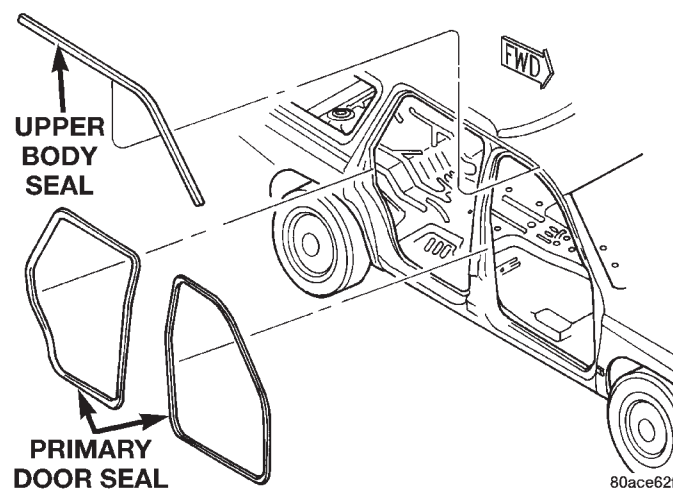

Fig. 54 Door Opening Weatherstrip
- (1) Remove door sill trim.
- (2) Loosen upper and lower B-pillar trim to access weatherstrip.
- (3) Remove C-pillar trim.
- (4) Pull quarter panel trim outward to access weatherstrip.
- (5) Pull weatherstrip from pinch flange around door opening (Fig. 54).